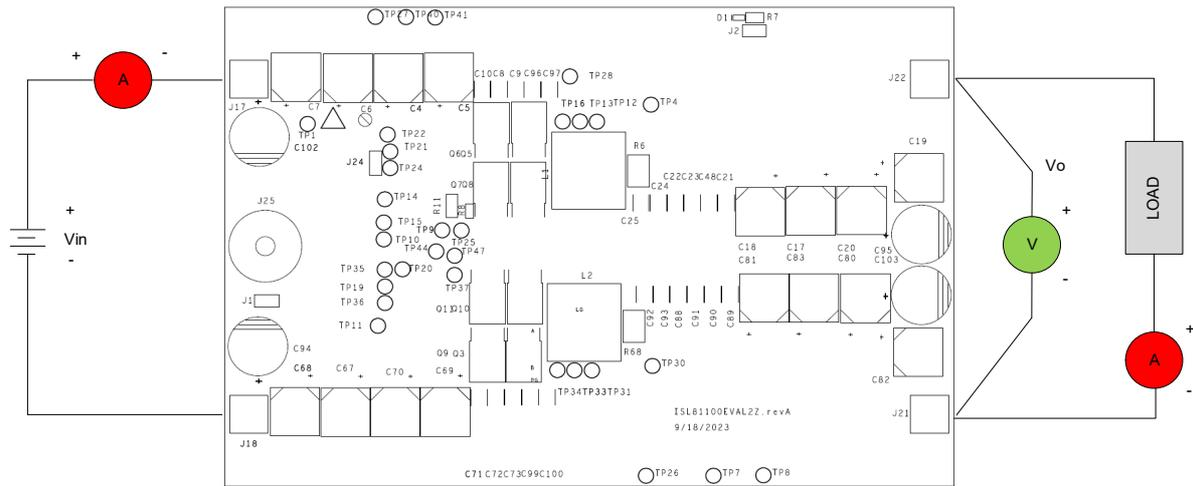

Figure 2. Proper Test Setup
As shown in Figure 2, 18V to 100V VIN is supplied to J17 (+) and J18 (-). The regulated 12V output on J22 (+) and J21 (-) can supply up to 20A to the load. Because of the high power efficiency, the evaluation board can run at 20A continuously without airflow at room temperature ambient conditions.
1. Connectors J24 provides an option to disable all the converters. See Table 2 for the operating options. Ensure the circuit is correctly connected to the supply and electronic loads before applying any power. See Figure 2 for proper setup.